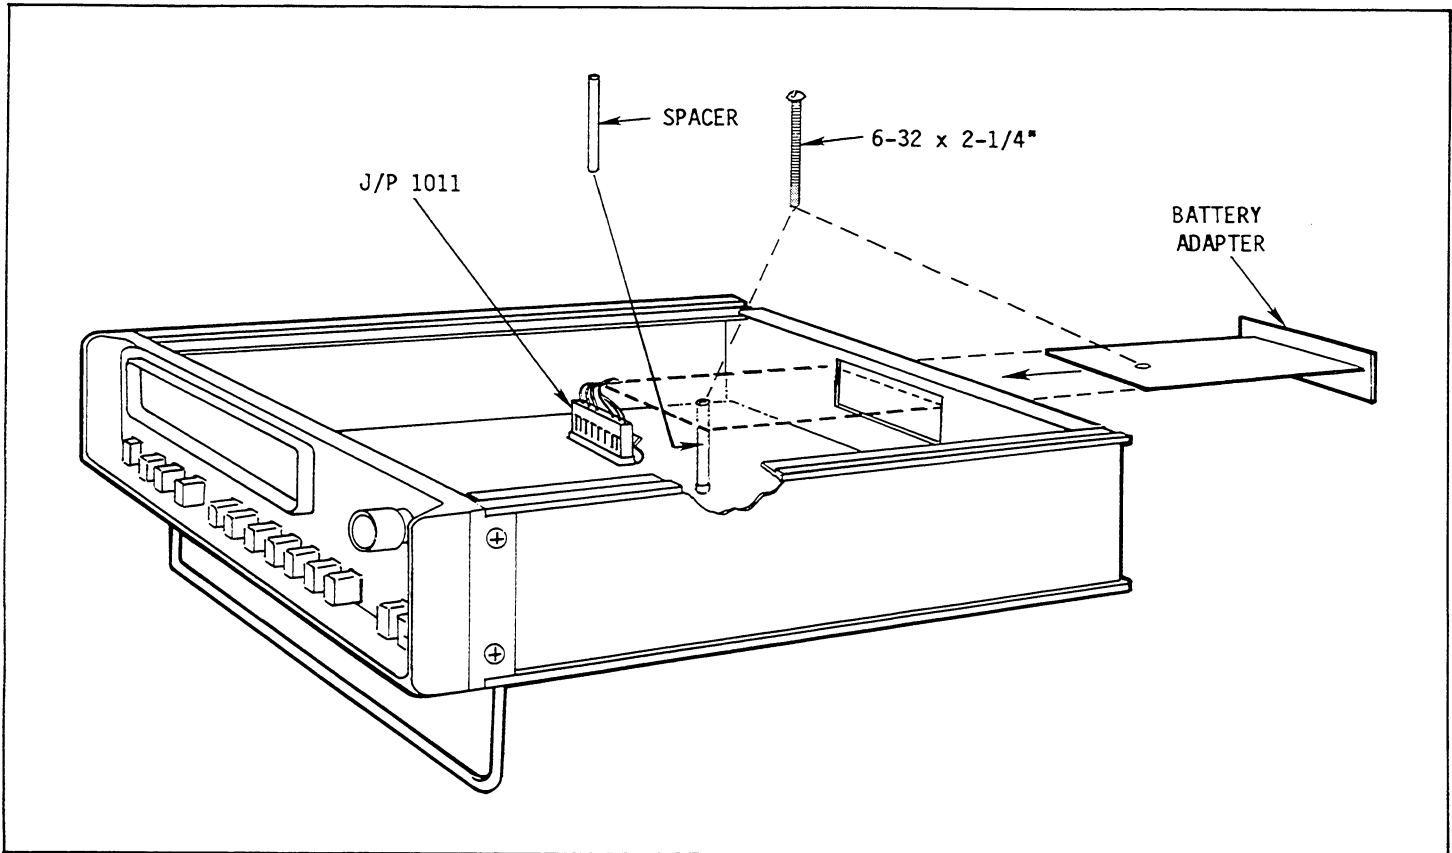

FIGURE 4-2. Model 6428 Battery Adapter Installation
a. Battery Adapter Installation. The battery adapter components are mounted on a plate which fits on the rear panel of the mainframe. With the plate installed, the input protection fuse and the two 5-way binding posts for connecting the battery are accessible from the rear panel of the mainframe. Electrical connections to the Model 642 are made by a plug which mates with a receptacle on the mainframe mother board. Refer to Figure 4-2 and install the battery adapter as follows.